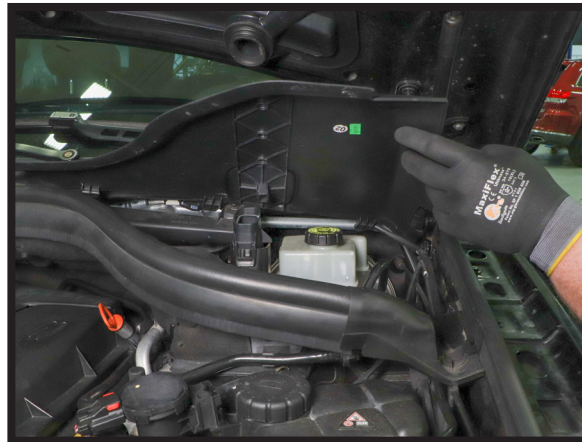

FIGURE 2
4. REMOVE ENGINE BAY TRIM PANEL TO ACCESS TOP OF AIR STRUT. (FIGURE 2)